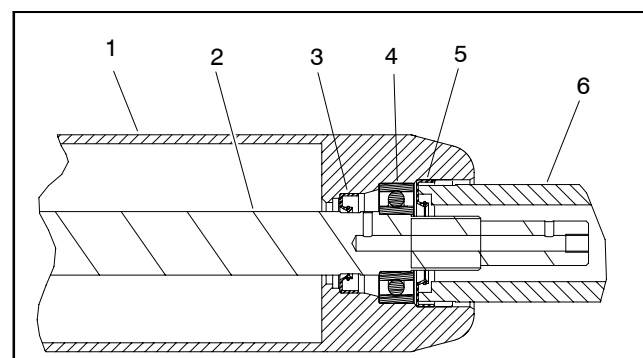

Figure 12
D. Carefully install first outer seal into roller tube making sure that seal lip (and garter spring) faces end of tube. Use bearing/outer seal tool (see Special Tools) and soft face hammer to lightly seat seal (Fig. 12). Make sure that shaft and bearings still freely rotate after seal installation.